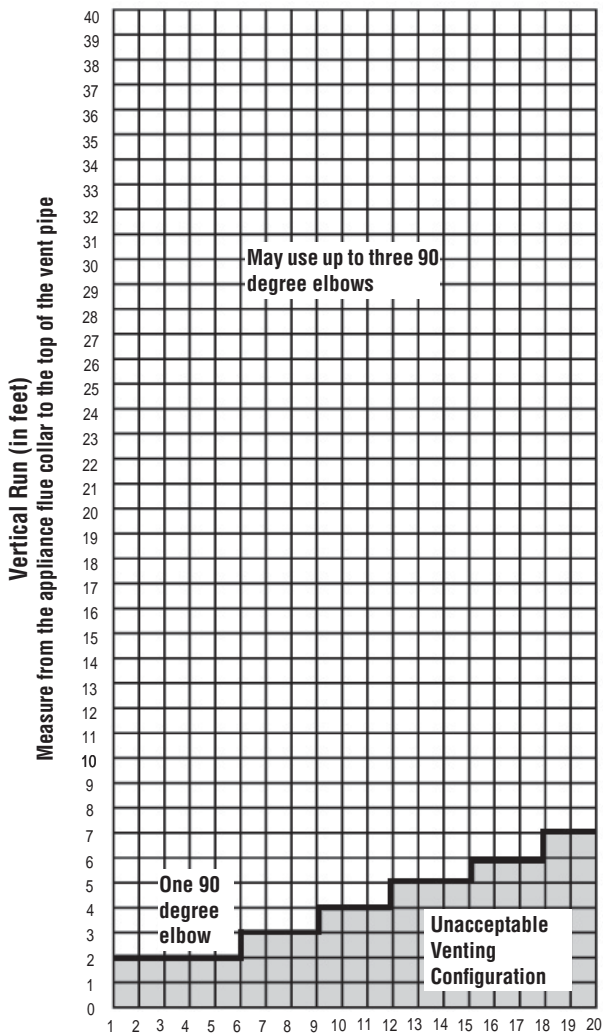

Figure 13 Horizontal Run (in feet)
**IMPORTANT: Do not exceed the maximum horizontal run allowed (see Figure 13 & 14).**
The horizontal run may extend up to 20 feet ( 6 meters) and include a vertical rise of up to 40 feet (12 meters) - see Figure 13. Horizontal termination must meet the criteria shown in Figures 4 and 5.
- Approved vent systems must terminate above and including the heavy line in Figure 13.